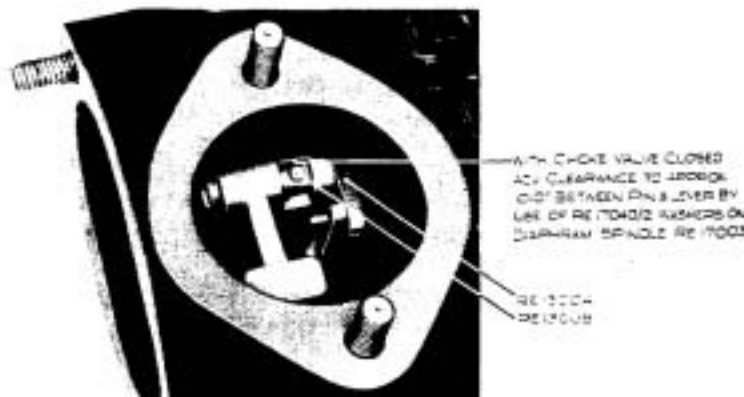
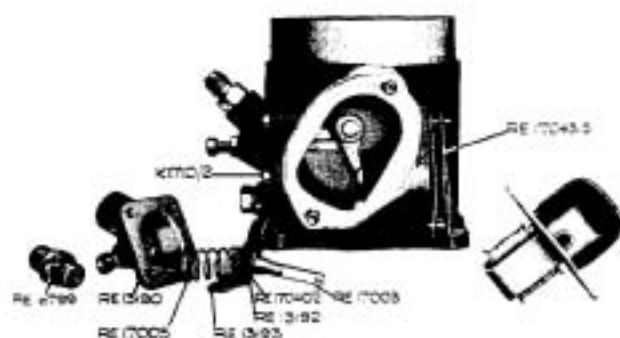

FIG.3. PICK-UP LEVER CLEARANCE.
FIG. 4. CHOKK VALVE DISMANTLED.
2. With the choke valve in the closed position, a small radial clearance, .010", is necessary between RE.13008 pin and the pick-up lever RE.13204, Fig.3. This is obtained by adjusting the length of RE.17003 rod, with the adjusting washers RE.17040/2, Fig. 4.